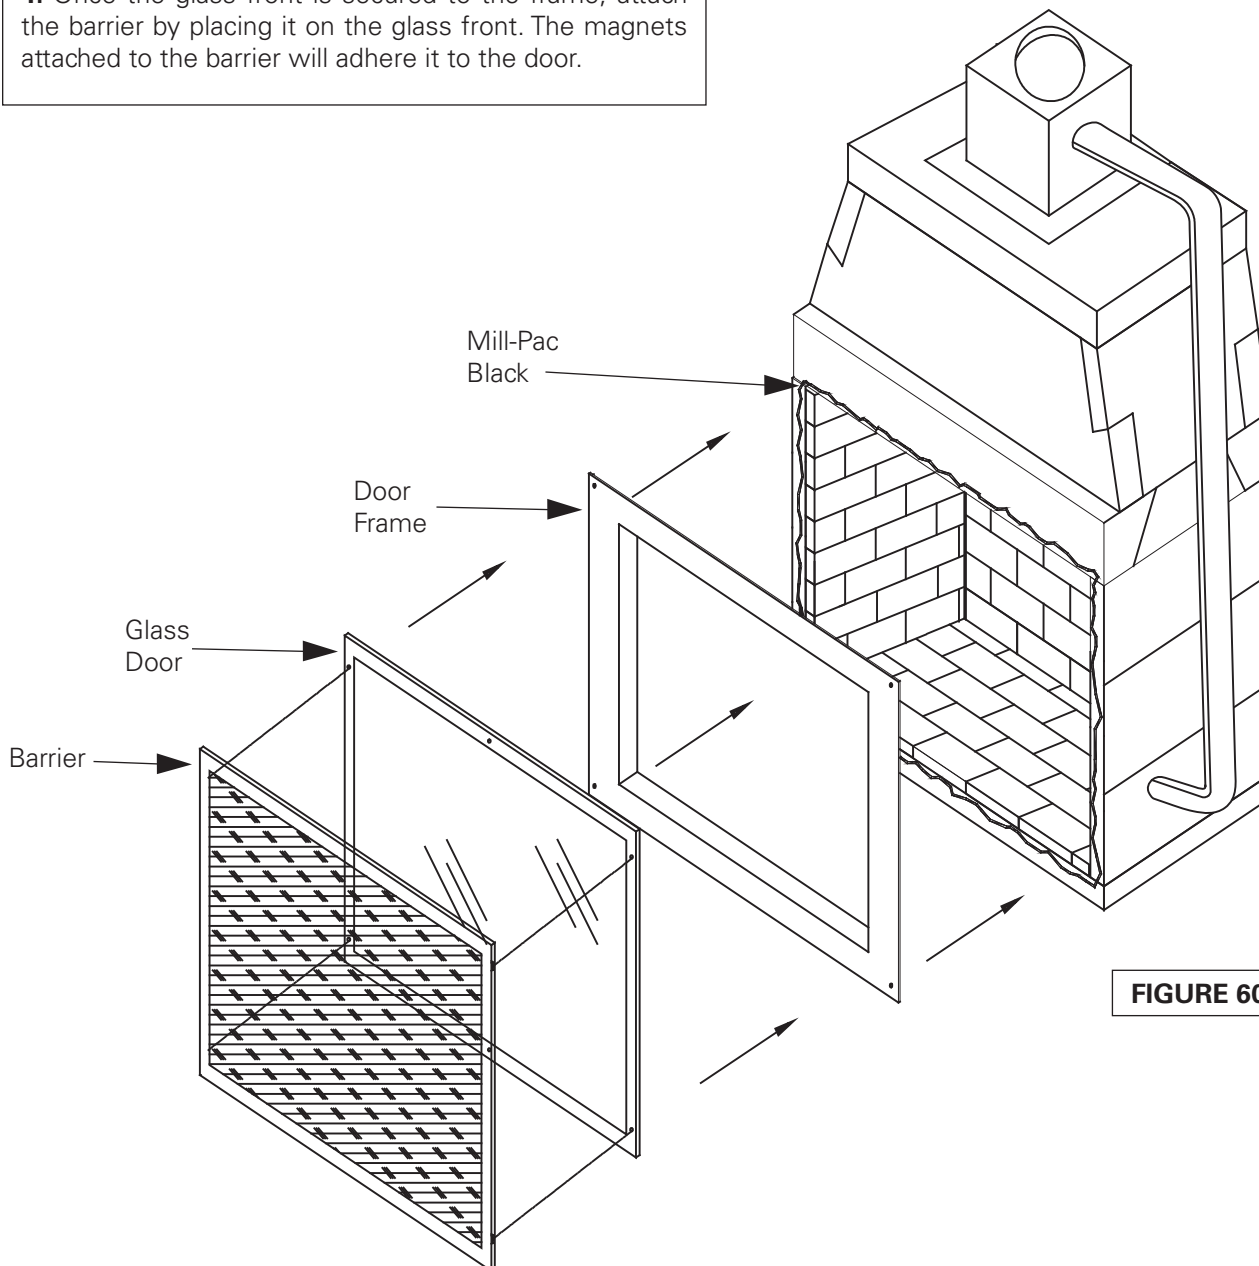

FIGURE 60
3. Next, take the glass door and line up holes in the frame attached to the Isokern fireplace. Use the 1-1/2" x 2" screws provided to screw through holes in glass door, through frame and into Isokern firebox. Secure with washer and Barrel Nut. **(Figure 60)**